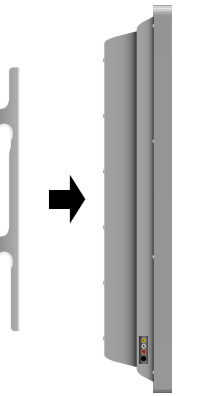

Fig. 2 - Attach the arms to the back of your display.
- Attach the arms to the back of your display using the bolts identified in Steps 1 and 2 along with the corresponding Lock Washer (C, F, I, or L) (see Fig. 2 and 3).
- A.** If you are using the M4, M5, or M6 bolts (Bags 1, 2, and 3 respectively), you will also need to use the M6 Washers (O).
- B.** If you are using one of the longer bolts on a display with a curved or recessed back, you will also use a Spacer (M or N). Use the Smaller Spacer (M) for M4 and M5 bolts and the Large Spacer (N) for M6 and M8 bolts.